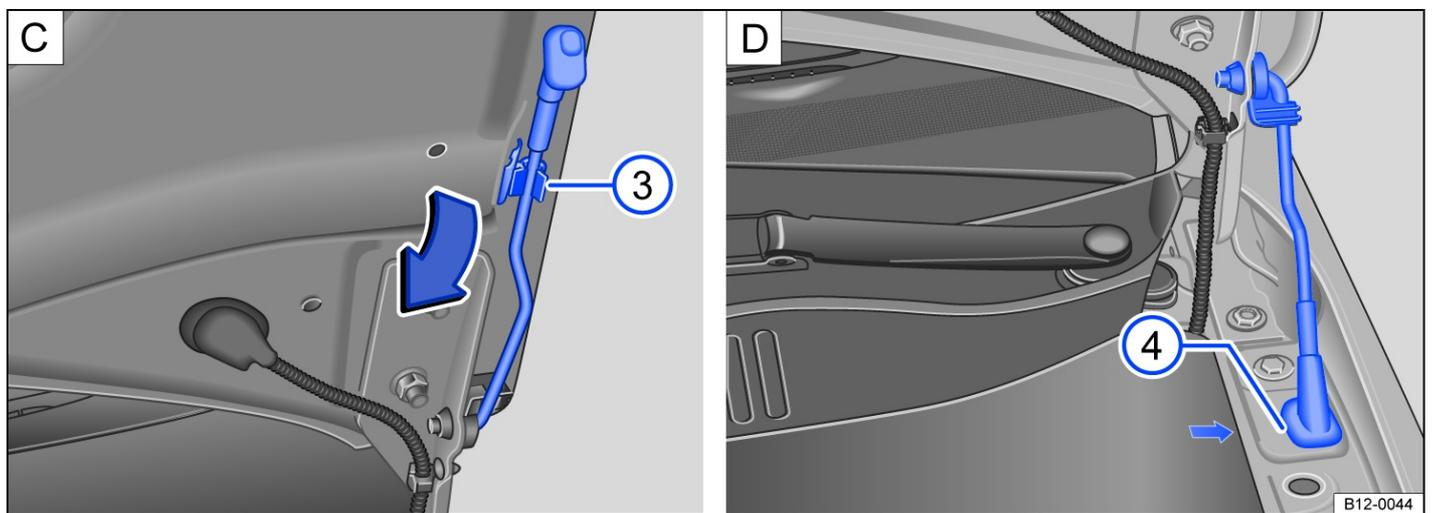

Fig. 2 **C** On the bonnet: bonnet stay in the holder. **D** Bonnet open.
- Take the bonnet stay out of the holder in the direction of the arrow → Fig. 2 **C** and insert in the opening → Fig. 2 **D**.
- Unhook the bonnet stay from the opening → Fig. 2 **D** and place in the holder → Fig. 2 **C**.